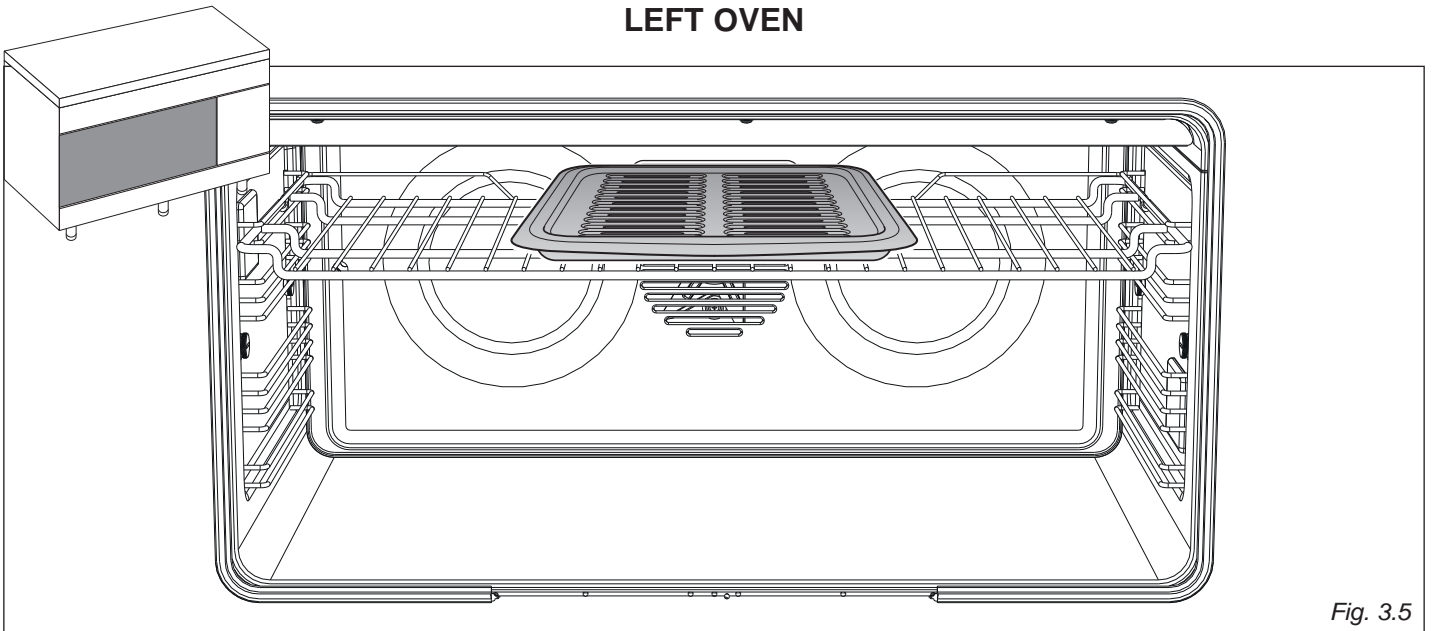
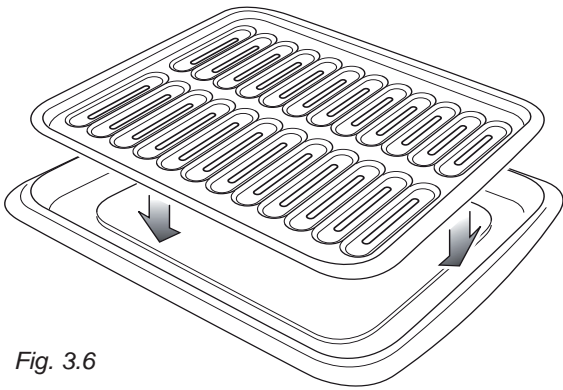

Fig. 3.5
Fig. 3.6
- Position the shelf on the first level from the top (fig. 3.5).
- Introduce the broiling pan in the oven (figs. 3.6 - 3.8). The broiling pan should be placed above the shelf and it should be centered with the broil element (fig. 3.5).